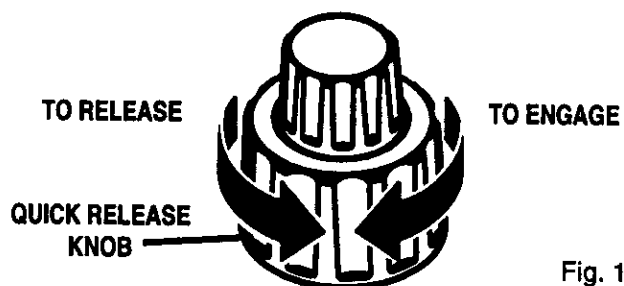

Fig. 13
- Loosen the foot adjusting knob. *See Figure 13.*
See Figures 13 and 14.